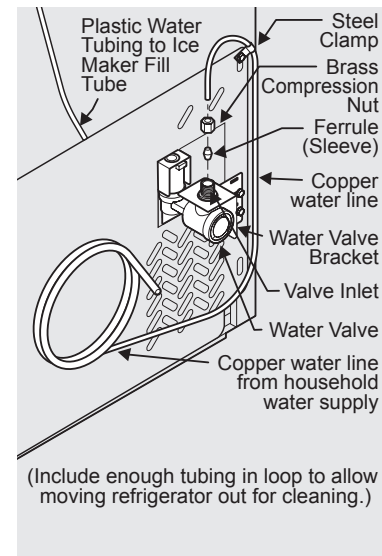

Figure 1
4. If you use copper tubing - Slide brass compression nut, then ferrule (sleeve) onto water supply line. Push water supply line into water valve inlet as far as it will go (¼ inch/6.4 mm). Slide ferrule (sleeve) into valve inlet and finger tighten compression nut onto valve. Tighten another half turn with a wrench; DO NOT overtighten. See Figure 1.